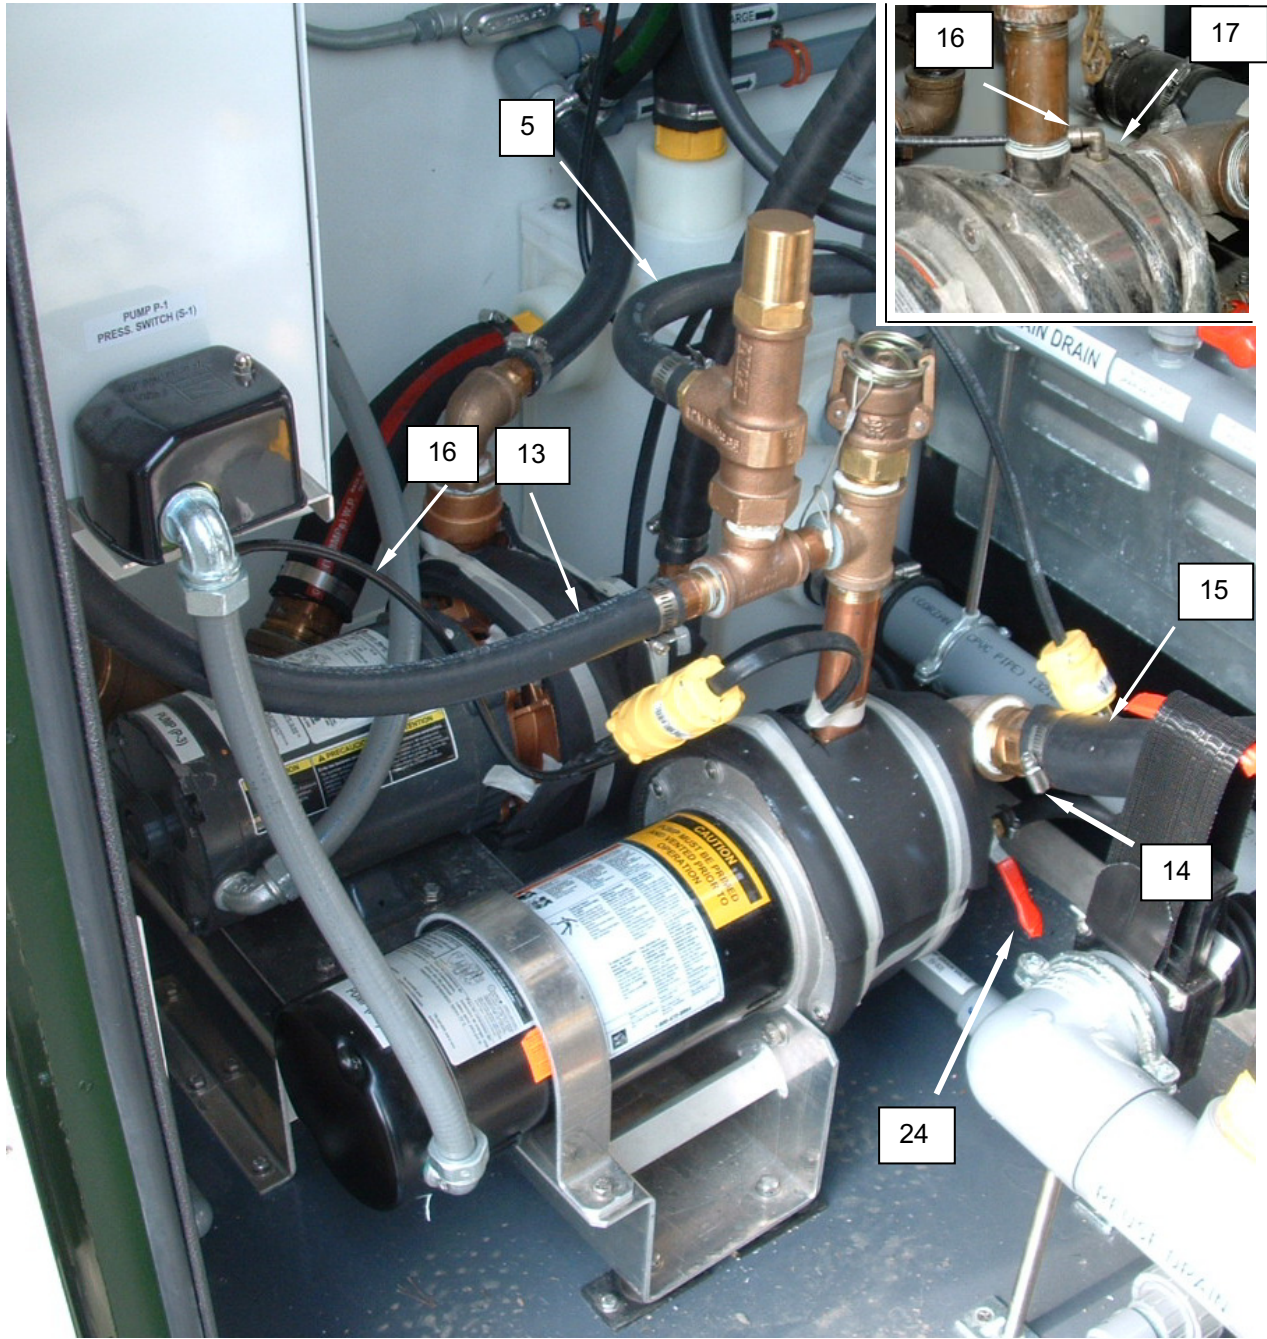

Figure 7. Replace the Pump Seal.
19. Install the pressure switch tubing (**Figure 7, Item 16**) onto the pump casing (**Figure 7, Item 17**) and retain with compression nut.
20. Install the drain hose (**Figure 7, Item 14**) onto the pump casing (**Figure 7, Item 17**) and retain with hose clamp.
21. Install the pump suction hose (**Figure 7, Item 15**) onto the hose barb and retain with hose clamp.
22. Install the pressure relief valve hose (**Figure 7, Item 5**) and retain with hose clamp.
23. Install the discharge hose (**Figure 7, Item 13**) and retain with hose clamp.
25. Close pump drain valve (**Figure 7, Item 24**). Operate IAW procedures given in TM 10-3510-226-10 and monitor for normal operation.